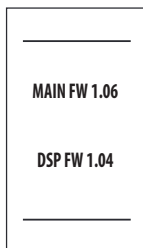

fig. 7 - Turning on / Software version
- During the first 5 seconds the display shows the software version of the board and display (fig. 7 - *Turning on / Software version*).